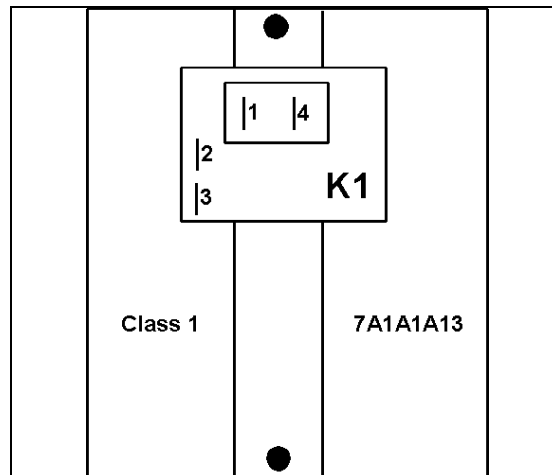

Figure 2 7A1A1A13-K1 Assembly
12. Connect the following wires between the PDB, 7A1A1A4, and the SCA SSTDR: (Refer to Figures 2 and 3).